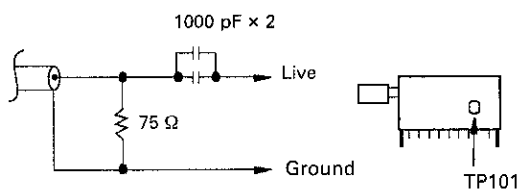

Fig. 1
1. Apply a carrier frequency of 39.5 MHz to pin ⑤ of IC 201. Connect pin ⑥ of IC 201 to ground. (Use a probe as shown in fig. 1).
1. Apply a carrier frequency of 6 MHz to pin ⑩ of IC 201. (Use a probe as shown in fig. 1).
3. Using a DC voltmeter on the 10 V full-scale range, measure voltage at pin ⑪ of IC 201, should read 4.5 V DC approx.
1. Connect a sweep generator to Tuner TP 101. (Use a probe as shown in fig. 1).